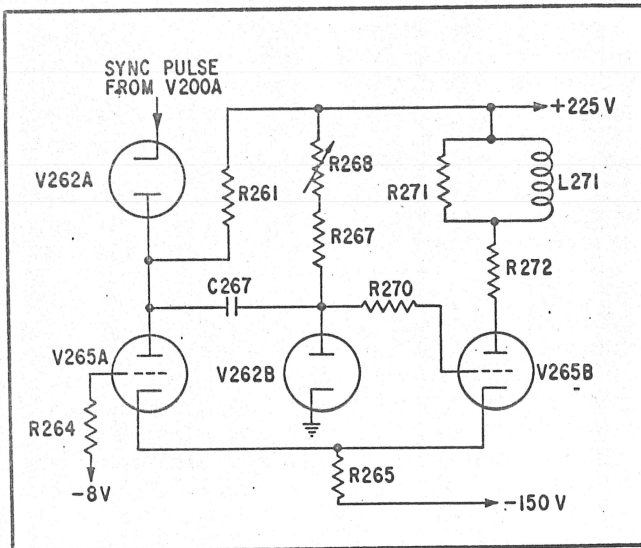

Figure 3-2. Simplified Diagram of Multivibrator Circuit
3-12. GENERAL. There are 13 divider circuits employed in the Model 1817, each containing a triggered multivibrator circuit. (See figures 3-2 and 5-2.) The fourteenth marker receives its signal directly from the crystal-controlled oscillator. The 10, 50, 100 and 500 microsecond markers are the high-frequency dividers. The 1, 5, 10 and 50 millisecond markers are the intermediate dividers. The 100 and 500 millisecond and the 1 and 5 second markers are the low-frequency dividers.
a. Operation of each divider circuit is essentially the same. Each circuit consists of a bi-stable multivibrator with diode coupling for triggering pulses. Operation of these circuits is described in the paragraphs that follow. Figure 3-2 is a simplified schematic diagram of a multivibrator circuit and should be referred to during the following description.